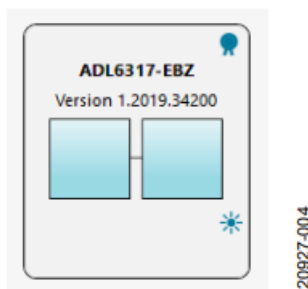

Figure 4. ADL6317-EBZ Board Icon
2. Double-click the ADL6317-EBZ board icon, as shown in Figure 4.